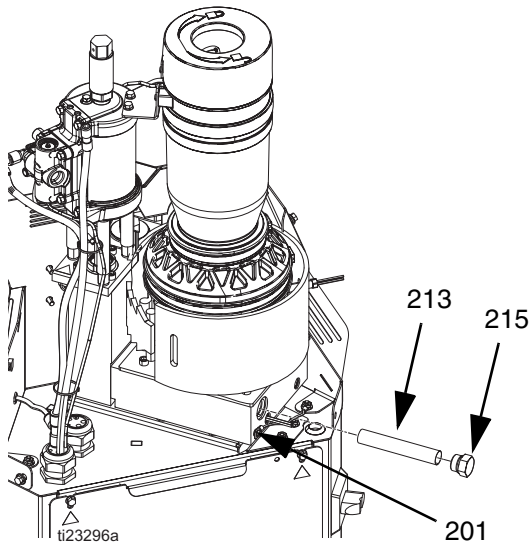

FIG. 26
NOTE: To ensure the adhesive is a gel, not a liquid, do not remove inlet filter cap (215) when the temperature is above the desired temperature. If the temperature is too low, the adhesive viscosity may be too high to remove the inlet filter (213). See FIG. 26, page 38.